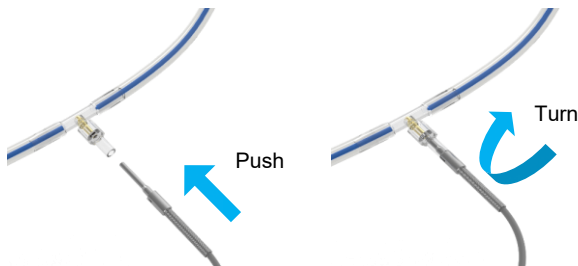

Figure 15 Connection of the temperature sensor to the perfusion set
- Connect the T2 sensor to the perfusion line, Figure 15; it is located at the outlet of the kidney reservoir.